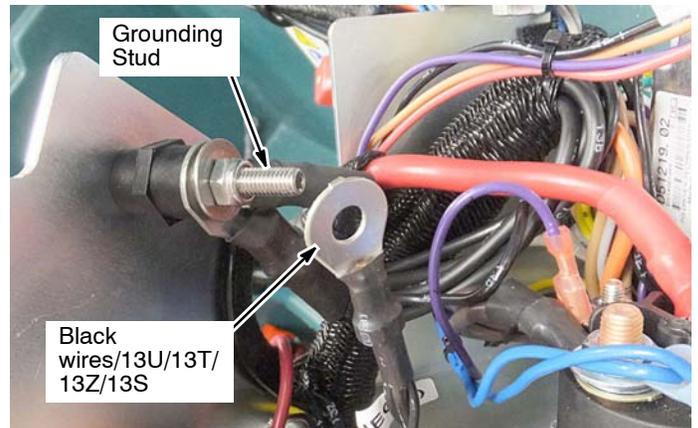

Fig. 11
- Connect the ec-H2O harness black wires 13U/13T/13Z/13S to the grounding stud (Figure 11).